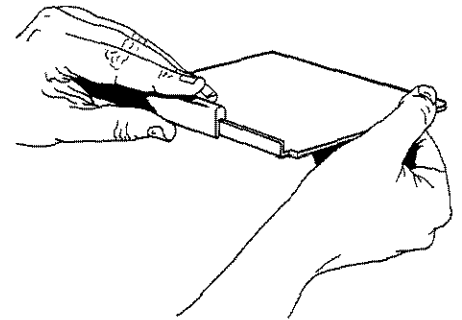

FIGURE 66
2. Slide the front trim right or left to remove from the shelf floor. See Figure 66.